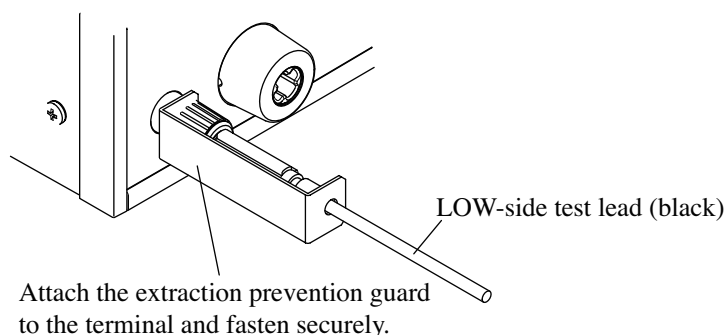

Fig. 3-2 Connecting the LOW-side Test Lead
2. Insert the black test lead into the LOW terminal and attach an extraction prevention guard to the terminal, as shown in Fig. 3-2.